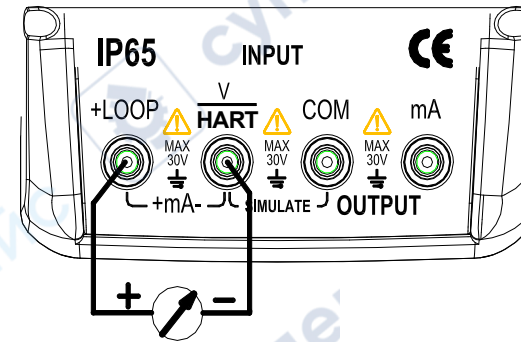

Figure 5-1
1. Insert one end of the test leads to the + mA - output jack (OUTPUT) of the Meter and connect the other end with the input of the user's Meter as shown in Figure 5-1:
1. Connect to the Meter as shown in Figure 5-1;
1. Connect to the meter as shown in Figure 5-1;
1. Connect as shown in Figure 5-1;